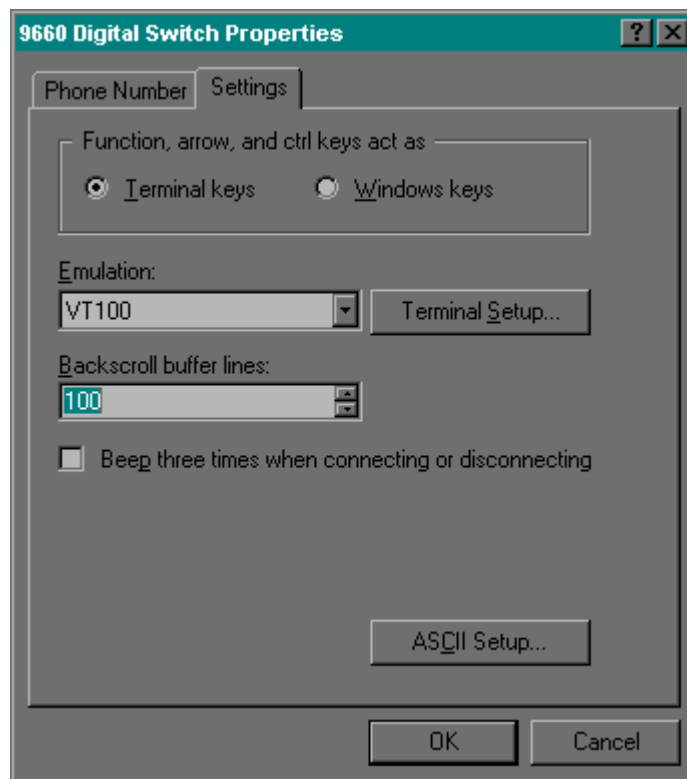

Figure 4-17. Properties/Settings window
12. Click on OK and then click on Settings. This will bring you to the Properties/Settings window as shown in Figure 4-17. Setup your window with the same parameters as those shown in Figure 4-17.